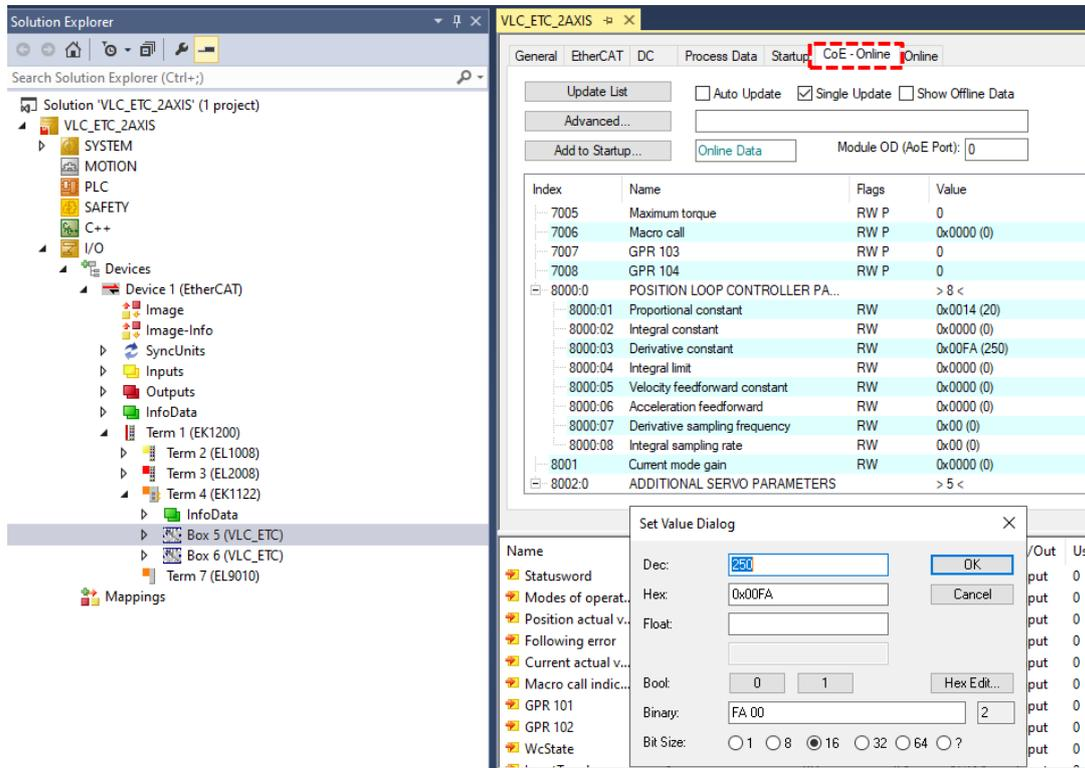

Figure 3.19. CoE-Online tab containing acyclic objects.
- Double-click on the VLC-ETC and select the “CoE-Online” tab as depicted in Figure 3.19. There is a table with various acyclic objects/configuration parameters such as controller PID settings.